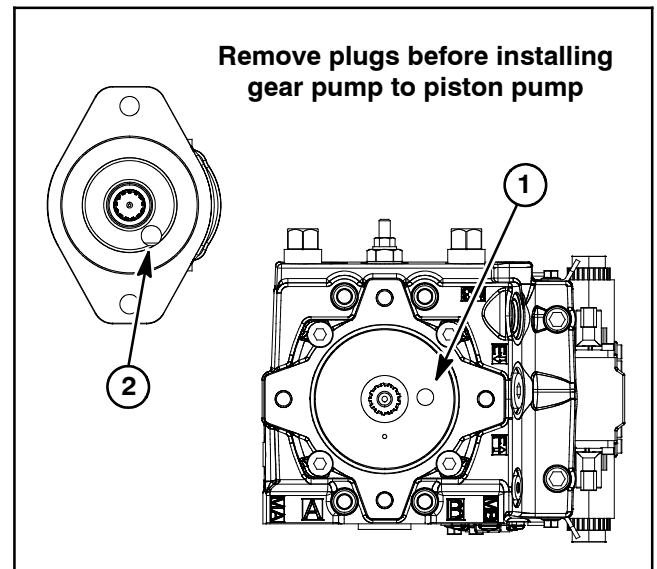

Figure 64
9. Remove two (2) cap screws and washers that secure gear pump to piston pump. Slide gear pump away from piston pump until gear pump shaft is removed from piston pump coupler. Lower gear pump and remove from machine.
**NOTE:** A case drain exists in the piston (traction) pump and a suction port is near the input shaft of the gear pump (Fig. 64). When the gear pump is removed from the piston pump, plug piston pump case drain hole to prevent draining the piston pump.
10. Remove O-ring (item 15) from gear pump flange. Discard O-ring.
4. Align gear teeth on gear pump input shaft with piston pump shaft. Slide gear pump input shaft into piston pump shaft. Secure gear pump to piston pump with two (2) cap screws and flat washers.
**IMPORTANT:** A case drain exists in the piston (traction) pump and a suction port is near the input shaft of the gear pump (Fig. 64). Before the gear pump is installed to the piston pump, make sure that plugs placed in either of these ports are removed. Failure to remove plugs will cause excessive pressure in the piston pump and damage seals. Also, before securing gear pump to piston pump, fill piston pump housing with clean hydraulic oil through case drain hole.